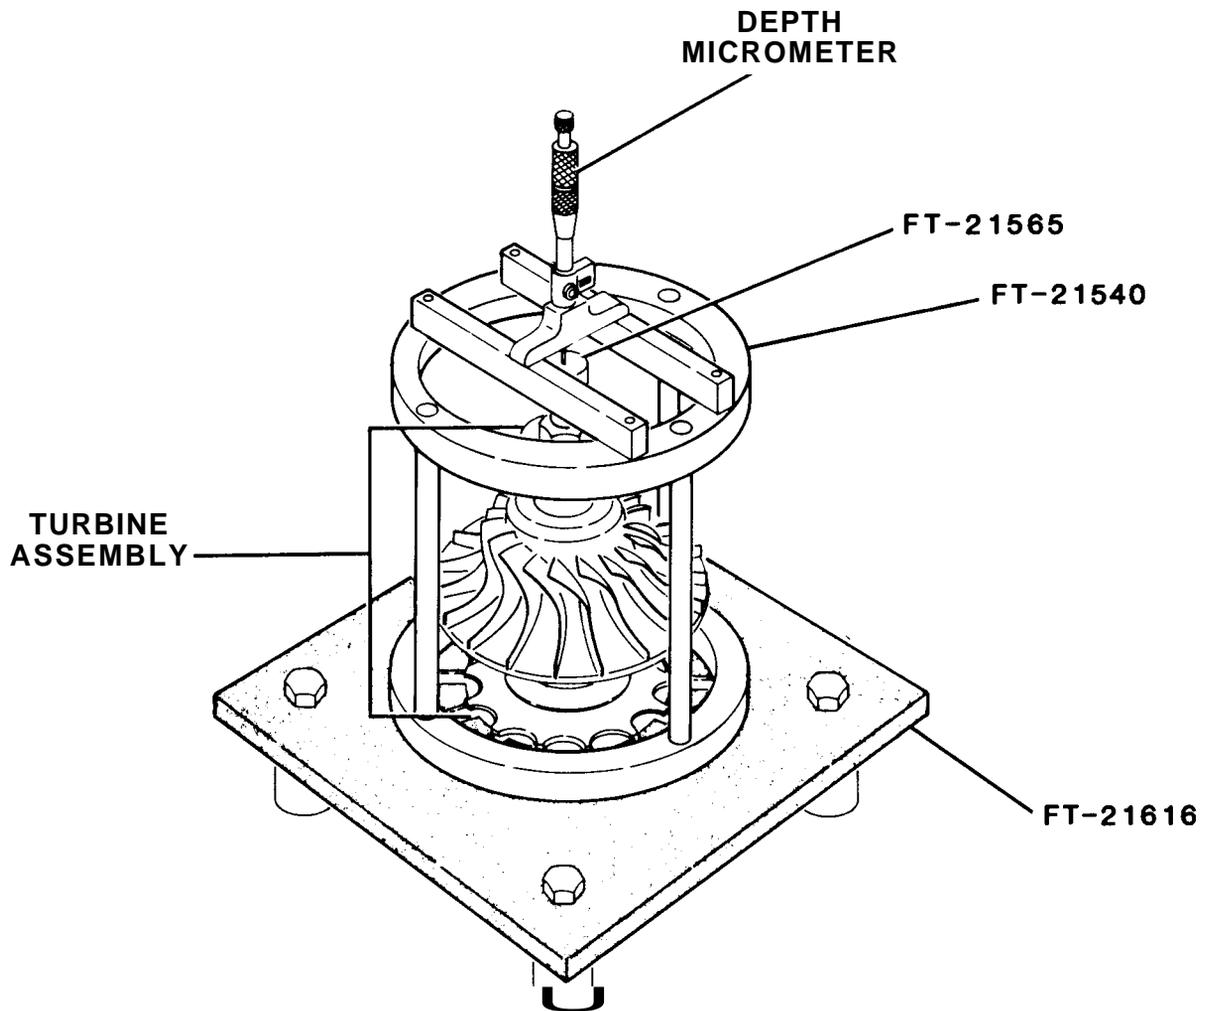

Figure 8-12. Obtaining Reading for Turbine Shaft Stretch Using Fabricated Tools FT-21540 and FT-21565
**(9)** Place fabricated tool (FT-21 540, Figure 8-12) over assembly. Place fabricated tool (FT-21565) on top of the turbine wheel shaft Take a base reading from top of fabricated tool (FT-21565) to top of fabricated tool (FT-21540) using depth micrometer Note the reading The shaft must be stretched 0 007 to 0 009 Inch (0 018-0 023 cm) from the original reading Remove fabricated tools (FT-21540 and FT-21565)